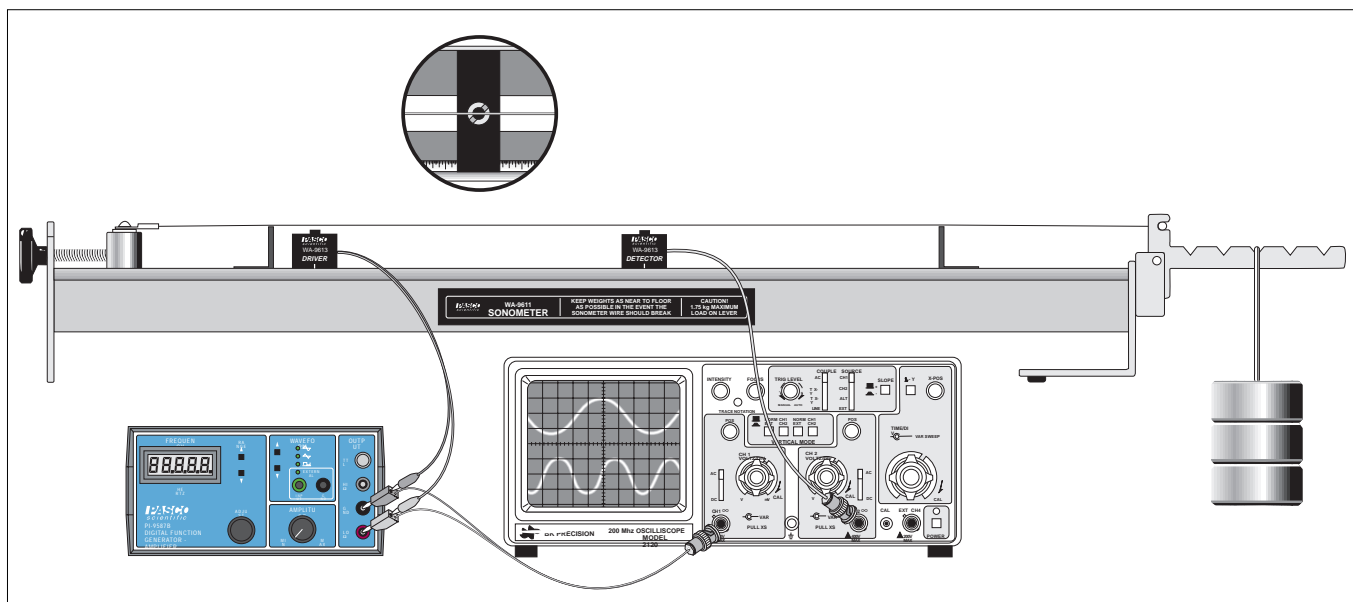

Figure 2.1 Equipment Setup
- ① Set up the Sonometer as shown in Figure 2.1.